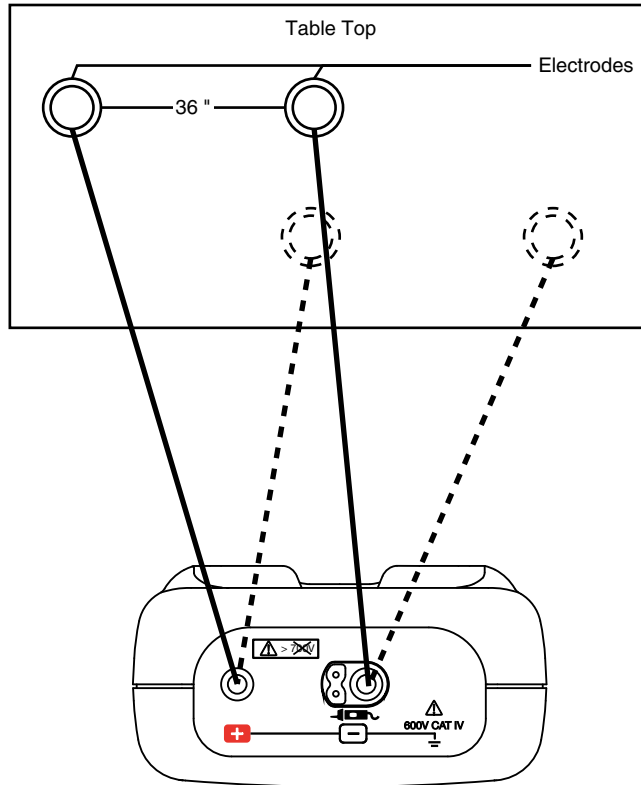

Figure 5
3. Unless otherwise specified, make five measurements on each floor section with the weights at different locations for each measurement, and record the value to two significant figures (see Figure 5 below).
- Resistance from electrode to electrode (Figure 5): Measured value:  $\geq 1\text{M}\Omega$